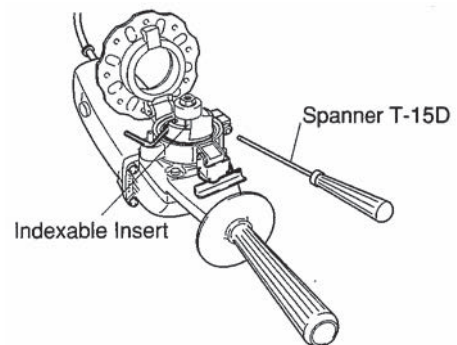

Fig. 10
- (3) Use the accessory Spanner T-15D to loosen the Indexable Insert holding screw, and remove the Indexable Insert. (Fig.10)